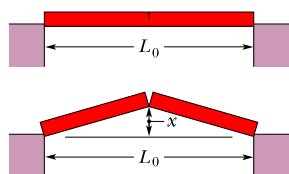

Figure 18.9 Problem 21.
**21 H SSM** As a result of a temperature rise of  $32^\circ\text{C}$ , a bar with a crack at its center buckles upward (Fig. 18.9). The fixed